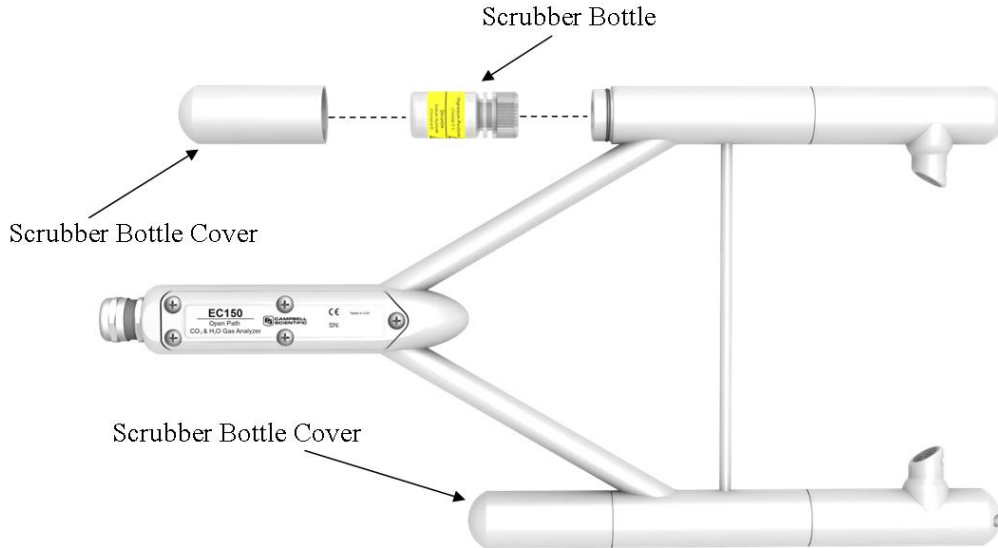

FIGURE 8-2. Replacing the desiccant and CO₂ scrubber bottles (replacement bottles purchased in or after July 2017 may appear different than in the figure)
If more than one year has passed since replacing the desiccant/scrubber or if the zero-and-span readings have drifted excessively (see Section 7, *Zero and Span* (p. 27)), the desiccant/scrubber bottles within the EC150 analyzer head should be replaced. FIGURE 8-2 gives the details needed for the following steps.
2. Remove the EC150 chemical bottles from inside the covers, and replace them with new bottles with the lid of the bottle pointing toward the snouts of the analyzer (see FIGURE 8-2).